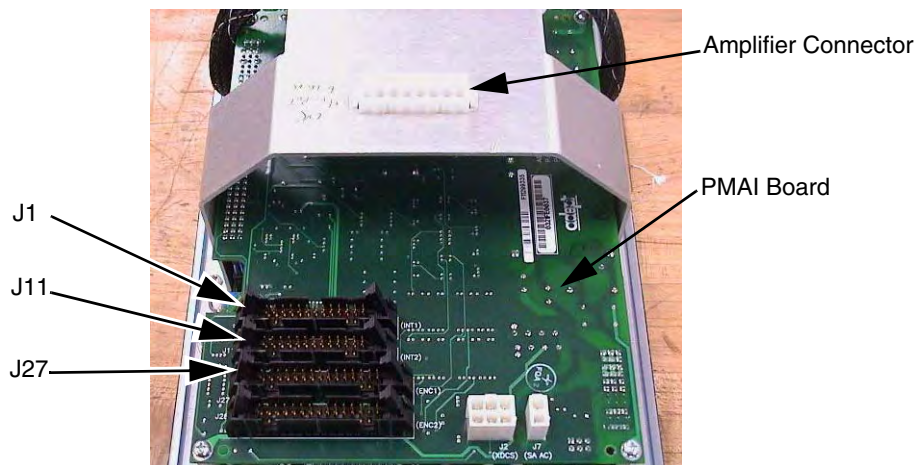

Figure 8-4. Connectors on AIB Chassis
11. Disconnect the “white” amplifier cable from the amplifier connector located on the chassis bracket. See Figure 8-4.